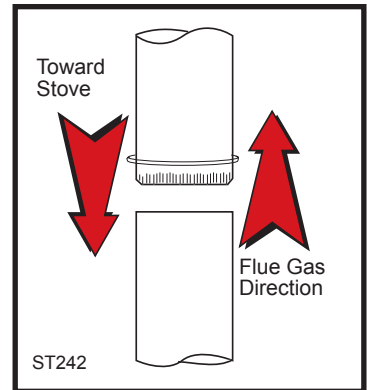

Fig. 5 Chimney connector.
- Begin assembly at the flue collar of the stove. Insert the first crimped end into the stove's flue collar, and keep each crimped end pointing toward the stove. (Fig. 5) Using the holes in the flue collar as guides, drill 1/8" (3mm) holes in the bottom of the first section of chimney connector and secure it to the flue collar with three #10 x 1/2" sheet metal screws. Lift off the griddle, and shield the stove's surface between the griddle opening and the front of the flue collar to protect the finish when you drill the front hole.
- Fasten each joint between sections of chimney connector, including telescoping joints, with at least three (3) sheet metal screws. The pre-drilled holes in the top of each section of chimney connector serve as guides when you drill 1/8" (3mm) holes in the bottom of the next section.
- Fasten the chimney connector to the chimney. Instructions for various installations follow. Figure 5 illustrates the general layout of chimney connector parts.